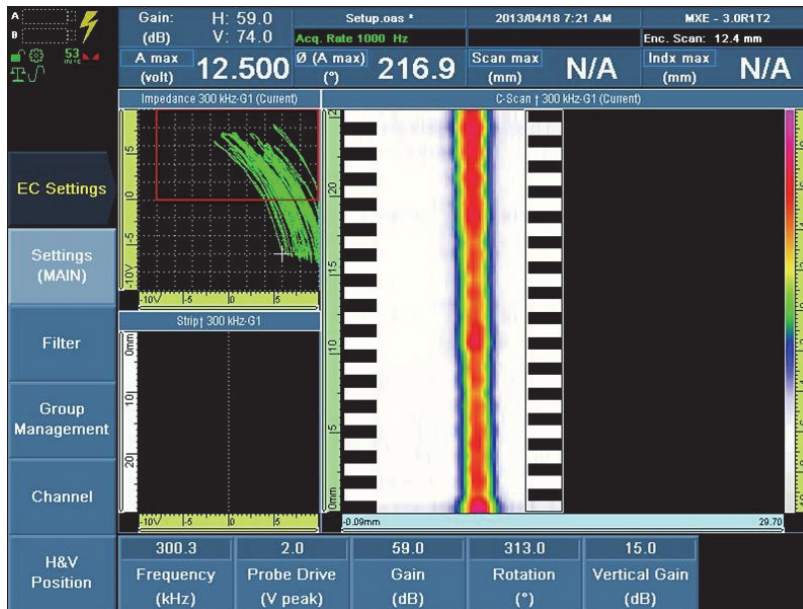

Figure 13-7 Example of cracks displayed after a rotation, gain, and vertical gain adjustment
15. Scan the Nortec TB-S1 calibration sample and make sure that the cracks are displayed (see Figure 13-7 on page 248).